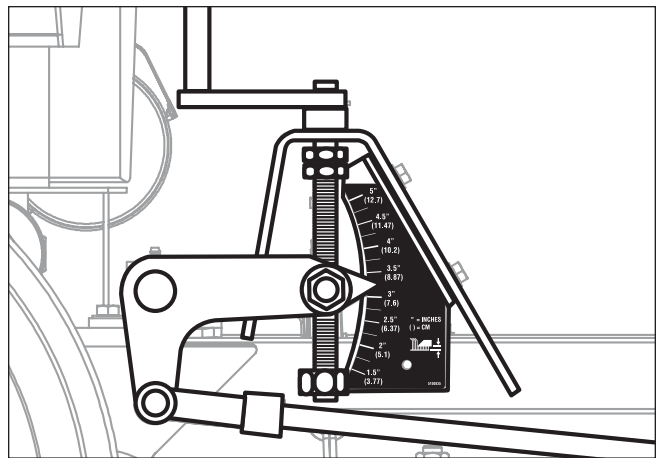

Figure 27. Deck Height Position
2. Crank the deck height adjustment handle so the cutting height indicator points to the 3.25" (8,26 cm). See Figure 27.